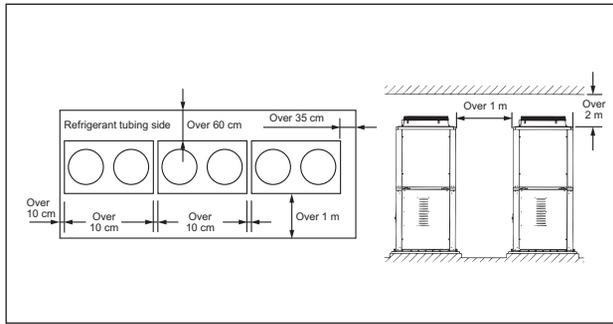

Fig. 1
- The allowances shown in Fig. 1 are for the space required for maintenance work. Be sure to provide this minimum space when selecting the location of the unit. Failure to do so may result in injury caused by the outdoor unit tipping over during maintenance, or in difficulty in servicing the unit.
- In order to improve heat exchange, install the outdoor unit in a location that is well ventilated. The spaces for each part must be as shown in Figs. 1 and 2. If installing in a poorly ventilated location, or if installing multiple outdoor units, ensure sufficient space to prevent short circuits.